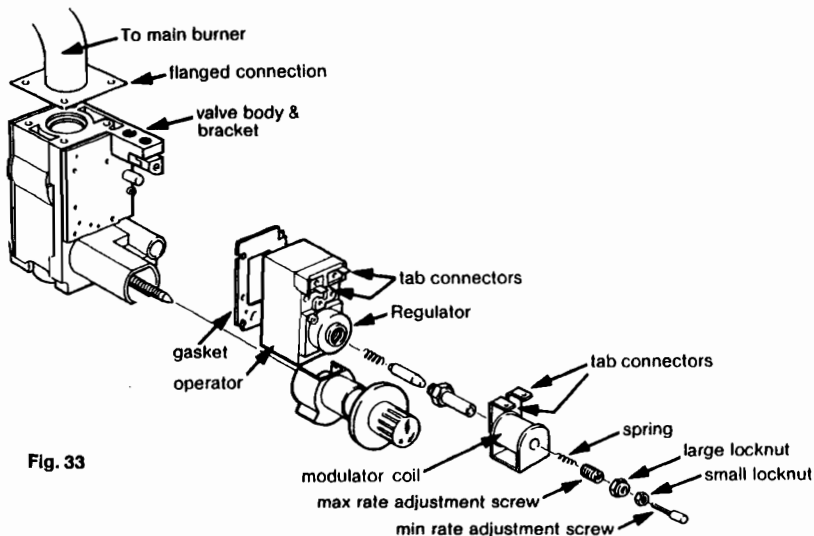

Fig. 33
8.13 TO REMOVE/REPLACE GAS CONTROL VALVE MODULATOR AND OPERATOR *Refer to fig. 33)*